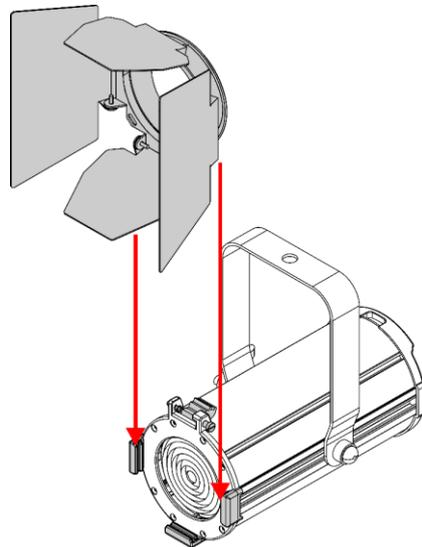

Fig. 08
- 02) Insert the barndoor into the **color frame holders (04)** (see Fig. 08).